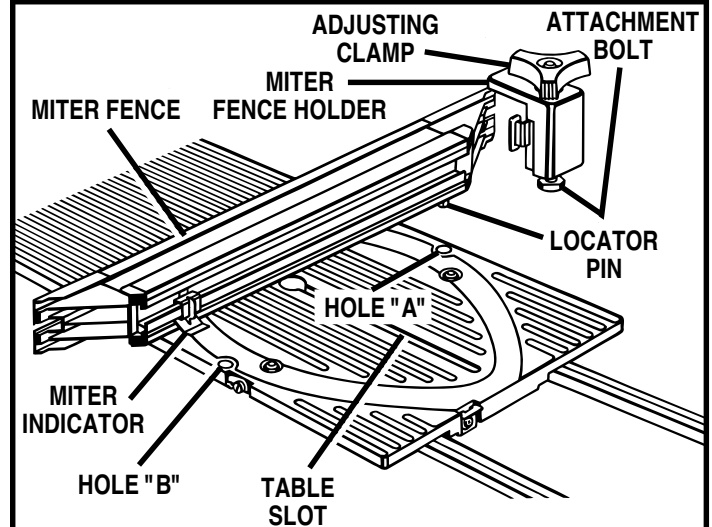

Figure 11: Miter Fence Installation
2. To install the miter fence holder to the miter fence, loosen the attachment bolt by turning the adjusting clamp (the knob on top) counterclockwise. Make sure the adjusting clamp is loose enough so the bolt has enough clearance to slide in the table slot. Slide the tabs into the grooves in the miter fence. See Figure 11.